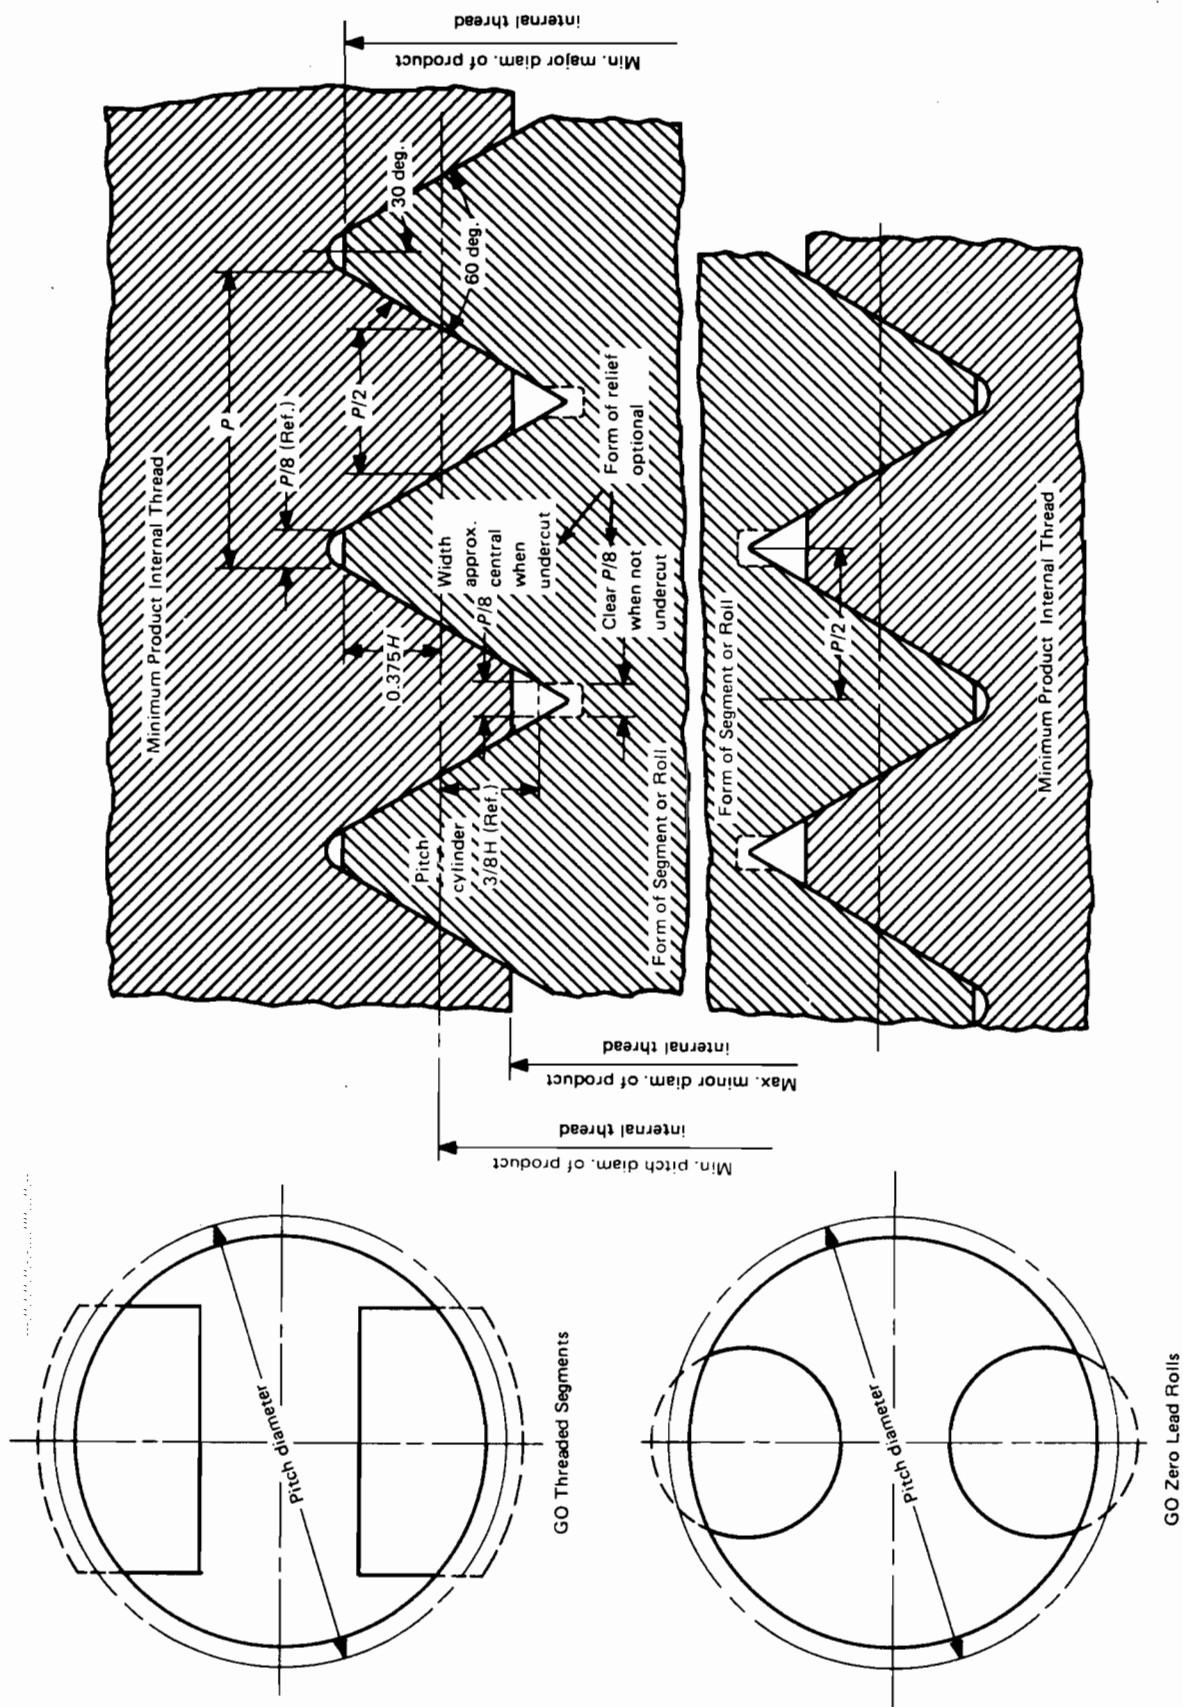

FIG. 4 THREAD SNAP GAGES — MAXIMUM-MATERIAL GO FUNCTIONAL LIMIT
4.3.2 Basic Design. The GO segments and rolls assembled into gage frames are the design of the individual gage manufacturer. The lengths of the two threaded segments and the two thread rolls spaced 180 deg. apart are equivalent to the standard plug gage blank lengths for practical and economic reasons. See Table C1 and Fig. 4. Internal product threads less than 5 mm in diameter are not practical to check with snap gages. GO thread segments shall engage 25% or more of the product circumference. The product shall be checked around circumference
4.3.3 Thread Form. The specifications for thread form are summarized in Table 4 and Fig. 4.